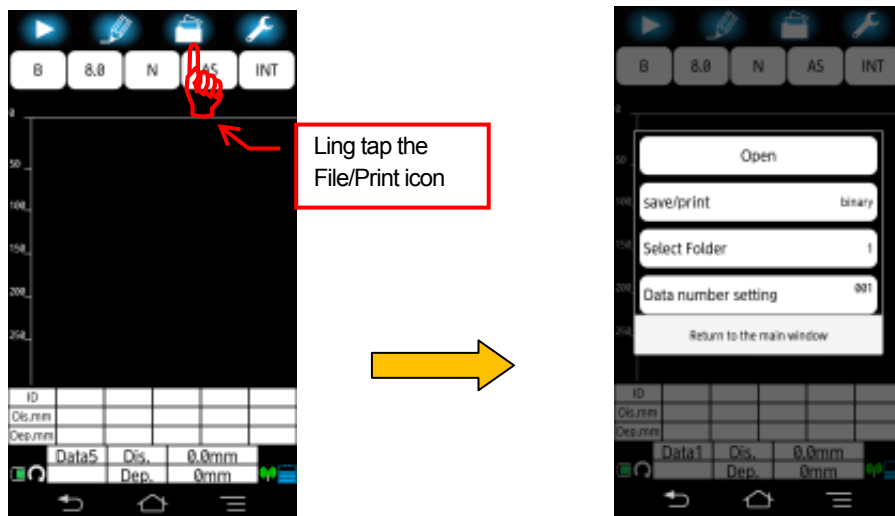
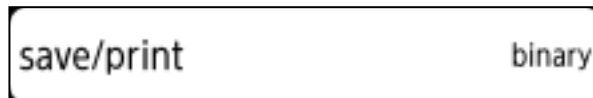
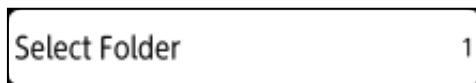
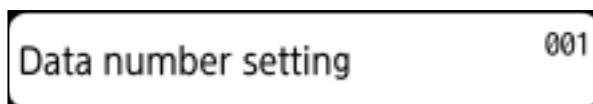

Figure 4-55 File operation screen
Figure 4-57 [Save/Print] menu
Figure 4-59 [Select Folder] menu
Figure 4-61 Data number menu
File operation screen (Figure 4-55) allows you to perform several file operations: saving/recalling the scan result data to/from the file, the folder setup, and the data number setup. You can access the file operation screen by long tapping the **[File/Print]** icon. This section describes file operations available in the file operation screen.
**[Open]** menu shown in File operation screen (Figure 4-55) allows you to show the list of the scan result files stored in Smartphone, to read the scan result data from the file, and to delete the selected file. Tap **[Open]** menu, then the file list screen as shown in Figure 4-56 appears.
[save/print] menu (Figure 4-57) in the file operation screen (Figure 4-55) allows you to select the output destination of the scan result data. The menu shows the current setting at the right hand side. Figure 4-57 shows the case of the current setting: Save (Binary).
[Select folder] menu (Figure 4-59) in the file operation screen (Figure 4-55) allows you to select the folder under which the scan data are stored in the memory card of Smartphone. The menu shows the current setting at the right hand. Figure 4-59 shows the case of the current setting: Data1.
[Data number setting] menu (Figure 4-61) in the file operation screen (Figure 4-55) allows you to set the data number of the file into which the scan data is stored. The menu shows the current setting at the right hand side. Figure 4-61 shows the case of the current setting: Data number 001.